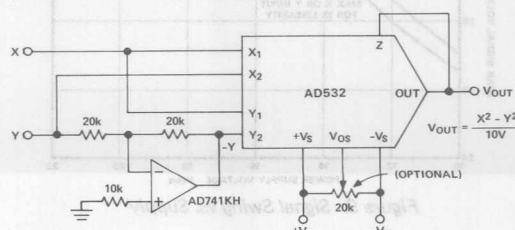

Figure 15. Differential of Squares Connection
The differential input capability of the AD532 allows for the algebraic solution of several interesting functions, such as the difference of squares, $X^2 - Y^2/10V$. As shown in Figure 15, the AD532 is configured in the square mode, with a simple unity gain inverter connected between one of the signal inputs (Y) and one of the inverting input terminals ($-Y_{in}$) of the multiplier. The inverter should use precision (0.1%) resistors or be otherwise trimmed for unity gain for best accuracy.